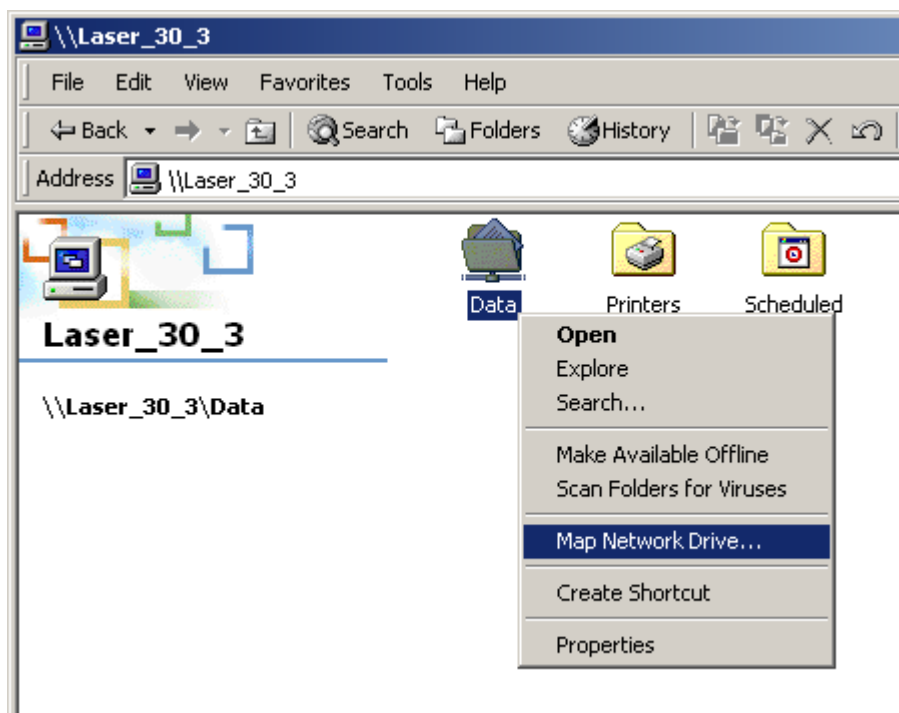

Fig.133 - Data folder of the LaserLab printer
- 2) Double-click on the printer's icon to view its contents. Localize the folder **Data** (fig. 133).
- 3) Select the Data folder. Right-click on it, and choose from the pull-down menu (fig. 133) the item **Map Network drive...**